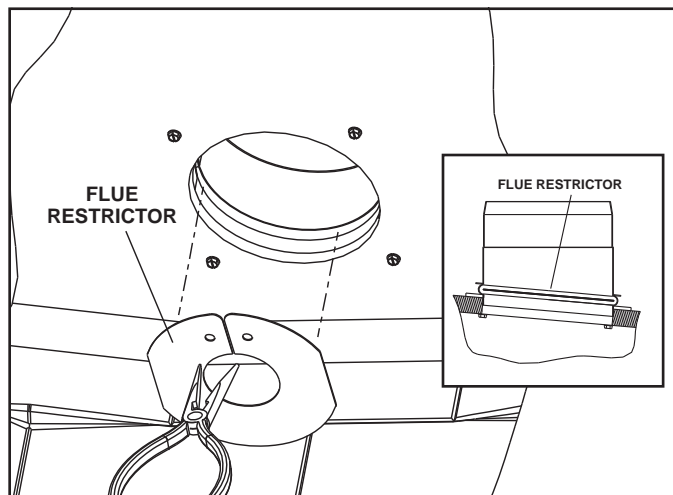

Figure 5.7
1. The flue restrictor (Figure 5.7) is located behind the right side panel. Use the restrictor if the vertical vent run is over 20 feet and has NO elbows.